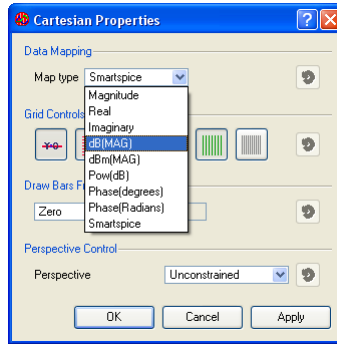

Figure 9: Cartesian Properties Window
3.2: Then select **View->Layout->Tile**. Right-click on the picture and select **Properties** and select dB(MAG) as the **Data Map Type** (Figure 9).